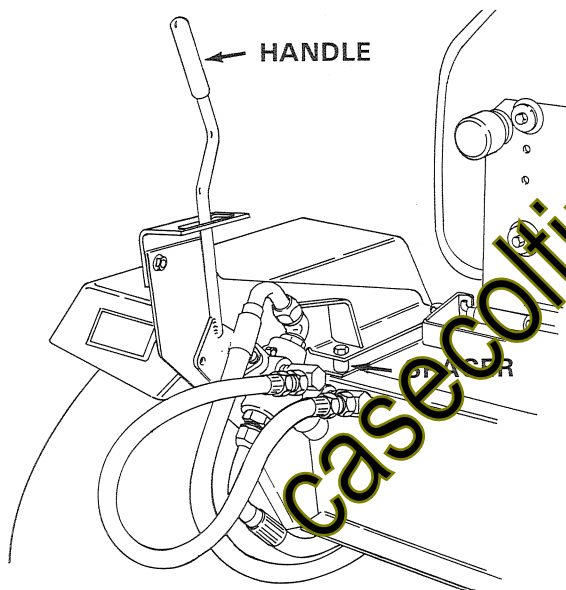

FIGURE 2
3. See Figure 2. Install the valve mounting bracket to the left hand fender mounting bolts.